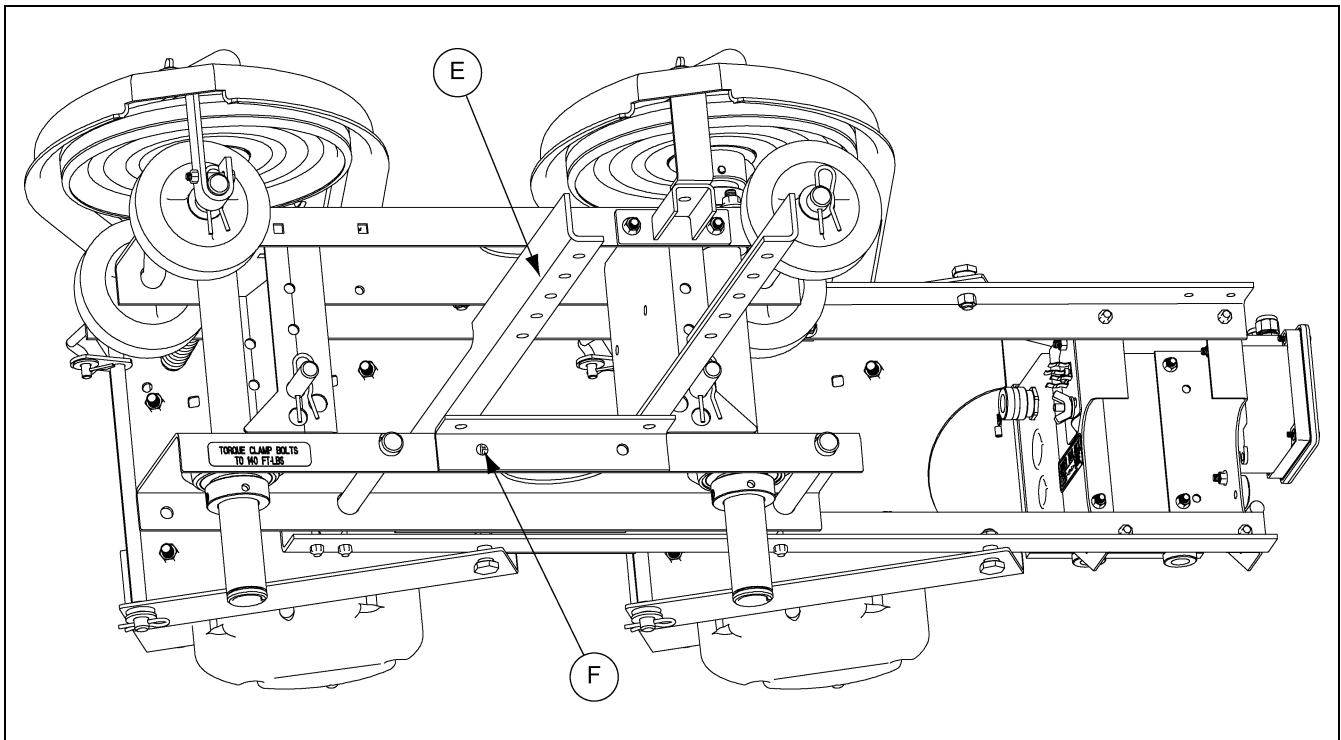

Figure 3
1. Drill four (4) 1/2" holes into the side flanges of the trolley frame, two (2) holes per flange (F). Locate the holes 5" apart. (See Figure 3.) **NOTE:** You may use the lower angle brackets as a template.